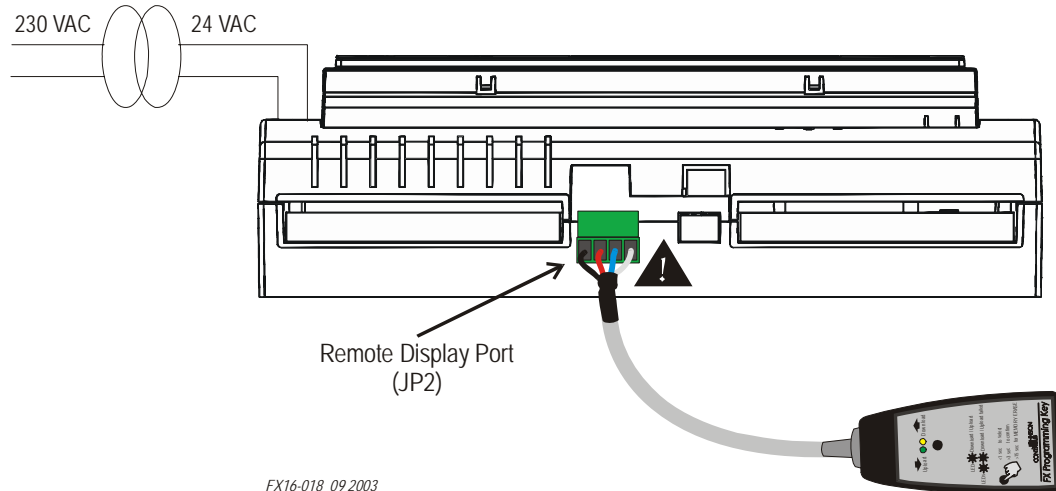

Figure 26: Programming Key Connection to FX15
3. Plug the Programming Key into the Display Port (see Figure 26).